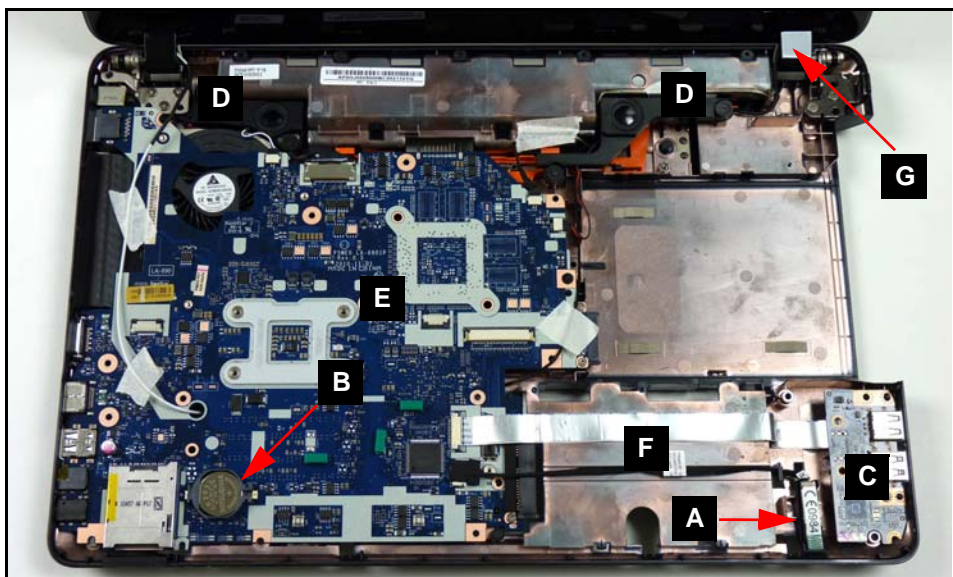

Figure 3-26. Mainboard Overview
1. Locate USB module (C) on lower cover (Figure 3-26).
1. Install module (C) on lower cover. (Figure 3-26)
1. Locate Bluetooth module (B) on upper cover. Refer to Figure 3-26.
1. Locate RTC battery (B) on mainboard. Refer to Figure 3-26.